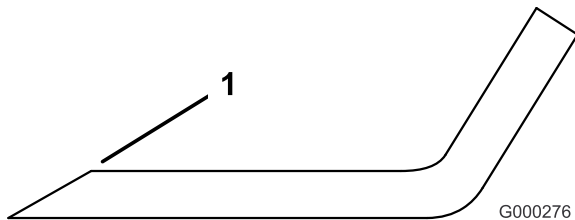

Figure 89
3. Examine the cutting edges of all of the blades. Sharpen the cutting edges if they are dull or nicked. Sharpen only the top of the cutting edge and maintain the original cutting angle to make sure of sharpness (Figure 89). The blade will remain balanced if the same amount of metal is removed from both cutting edges.